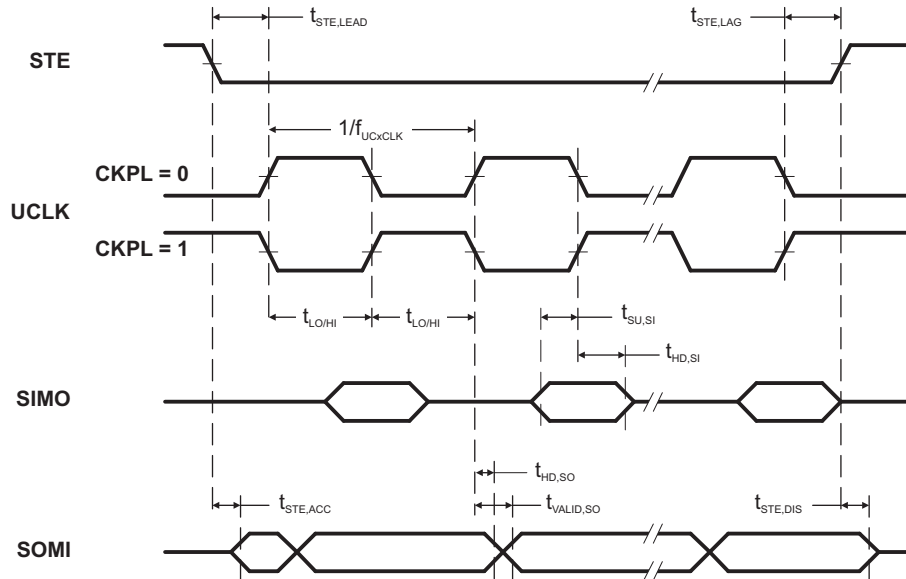
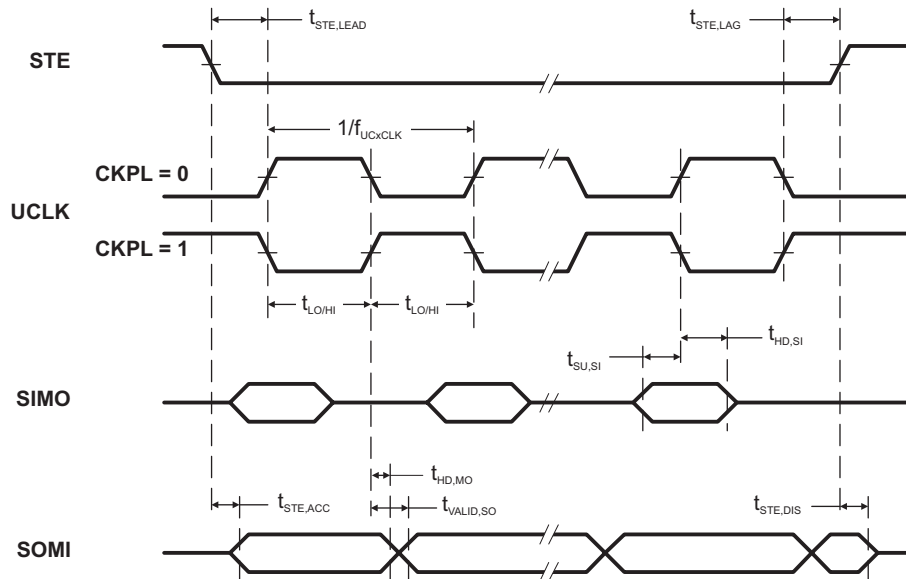

Figure 13. SPI Slave Mode, CKPH = 0
Figure 14. SPI Slave Mode, CKPH = 1
(see Note ⁽¹⁾, Figure 13 and Figure 14)
(2) Specifies the time to drive the next valid data to the SOMI output after the output changing UCLK clock edge. See the timing diagrams in Figure 13 and Figure 14.
(3) Specifies how long data on the SOMI output is valid after the output changing UCLK clock edge. See the timing diagrams in Figure 13 and Figure 14.